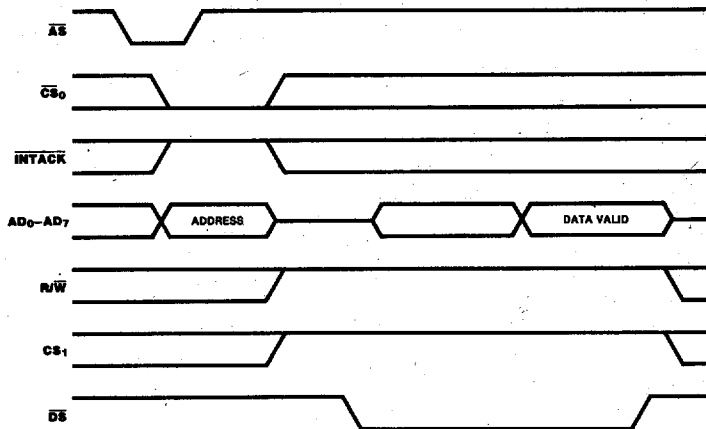

Figure 15. Read Cycle Timing
**Read Cycle Timing.** Figure 15 illustrates Read cycle timing. The address on  $AD_0$ - $AD_7$  and the state of  $CS_0$  and  $\overline{INTACK}$  are latched by the rising edge of  $\overline{AS}$ .  $R/\overline{W}$  must be High to indicate a Read cycle.  $CS_1$  must also be High for the Read cycle to occur. The data bus drivers in the SCC are then enabled while  $\overline{DS}$  is Low.